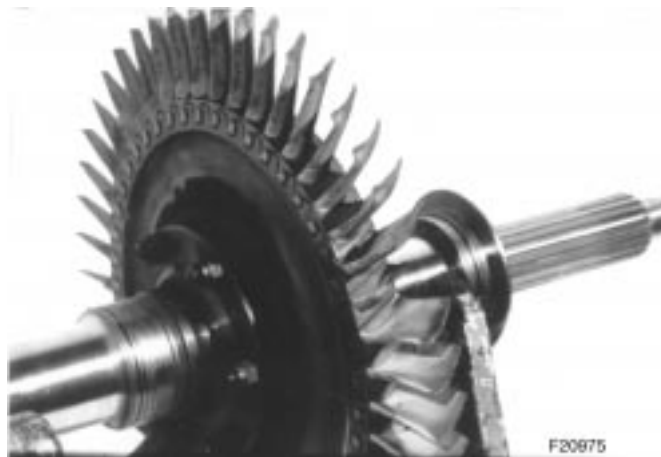

Figure 15-9 - Stretched Blades That Have Rubbed The Shroud
1. Turbine blades that are stretched and have rubbed the shroud; some of the blades may have pulled apart. Often the turbocharger is frozen and the impeller cannot be rotated, therefore, only a limited view of the blades is available, Figure 15-9.